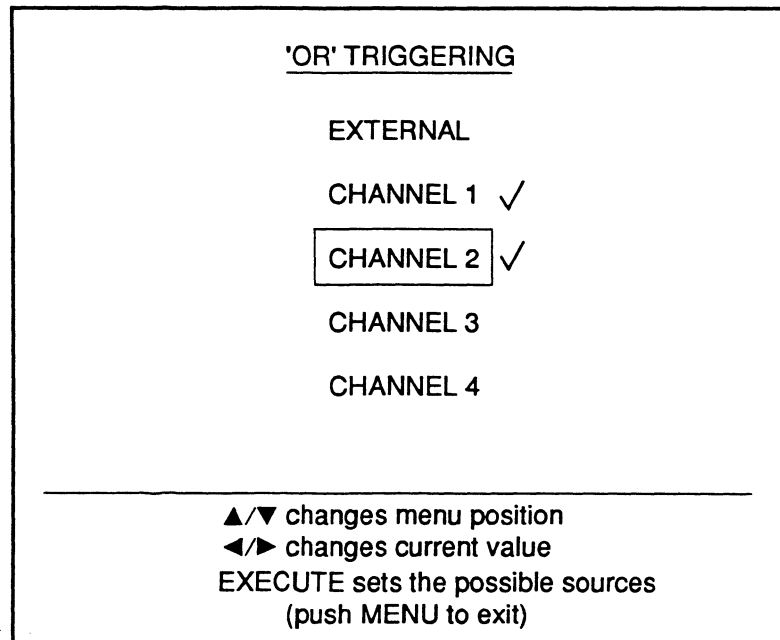

Figure 2 - 'OR' Triggering Selection Screen showing that CHANNEL 1 and CHANNEL 2 have been 'ORed'
'OR' Triggering allows any signal input to the front panel input BNC(s) to trigger a sweep when it qualifies as a valid trigger. The input BNC(s) must be ungrounded. A check mark will be displayed next to each of the inputs that are currently 'ORed' on the 'OR' Triggering selection screen (Figure 2).
1. Execute 'OR' TRIGGERING. The 'OR' Triggering selection screen appears (Figure 2).